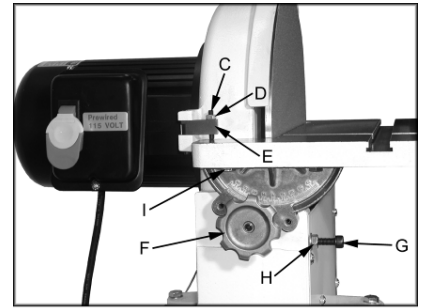

Fig 9
If adjustment of 45° stop is needed, loosen the hex nut (H, Fig 9) and adjust the socket head cap screw (G).